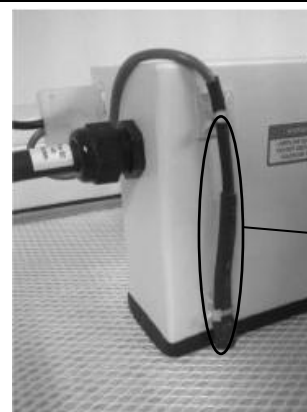

Figure 5-3
- Temperature sensor is located on top of the unit, close to exhaust airflow sensor, and attached on the white metal box. See Figure 5-3.